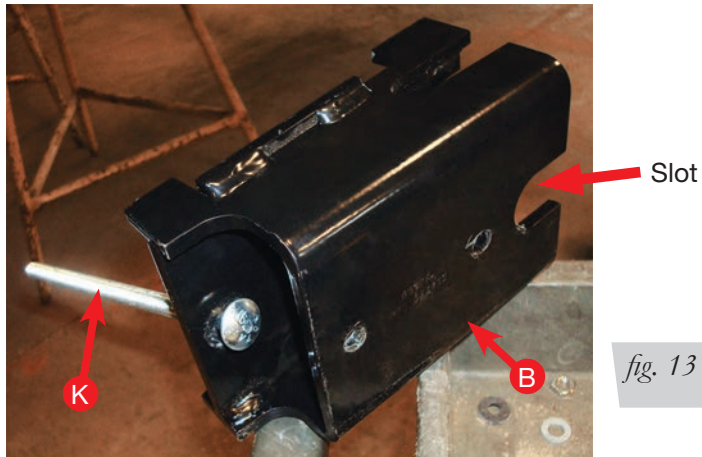

fig. 13
5. Insert the 3/8"-16 X 7" carriage bolts (K) through the lower bracket (B) hole that is opposite of the slot shown in Figure 13. Repeat for both lower brackets.